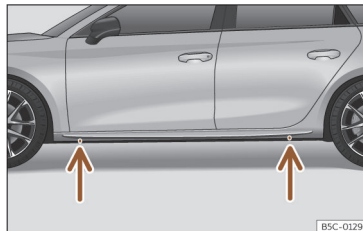

Fig. 236 Jack position points.
- Look on the strut for the mark of the jack support point (sunken area) closest to the wheel to be changed >>> **Fig. 236**.